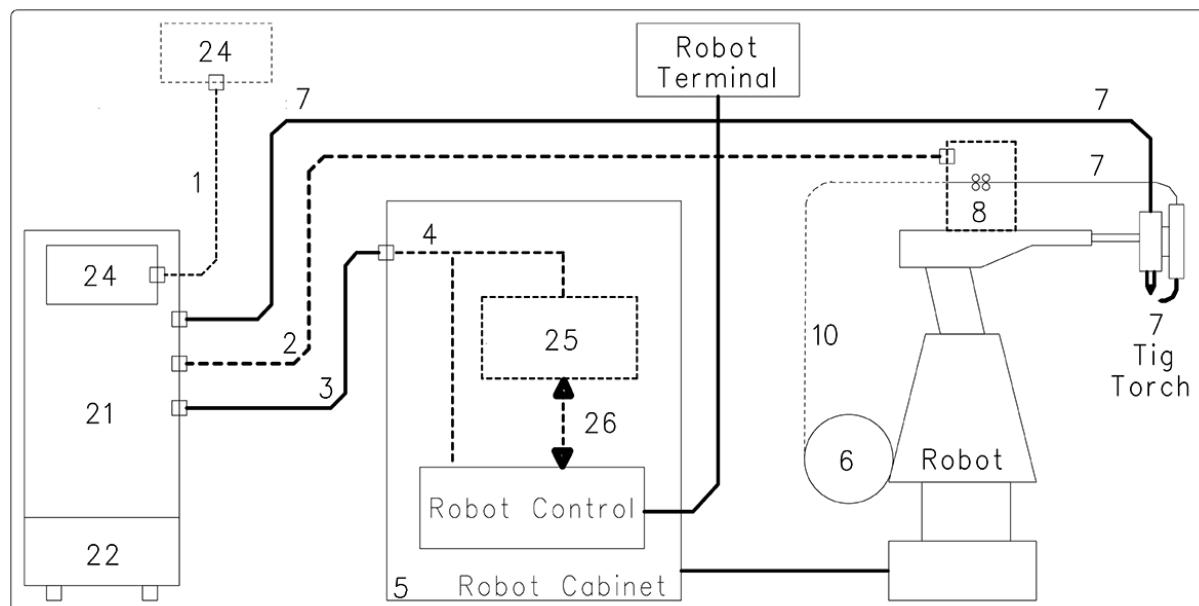

fig. 2
It comprises a Power Source, with integrated Control Panel, a Cooling Unit, a Wire Feeder Unit (optional) and, if necessary, a Robot Interface (fig. 2).
NOTE: If the Robot Control (fig. 2) has the CANopen DS401 communication line type, the interface (25) and the cable (26) are not necessary.
3.1 Installation (fig. 2).